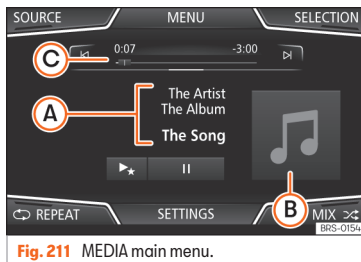

Fig. 211 MEDIA main menu.
- Press the infotainment button **MEDIA** to open the *Radio* main menu » **Fig. 211**.
The media source being played is indicated on the dropdown list when pressing the **SOURCE** function button » **Fig. 211**.